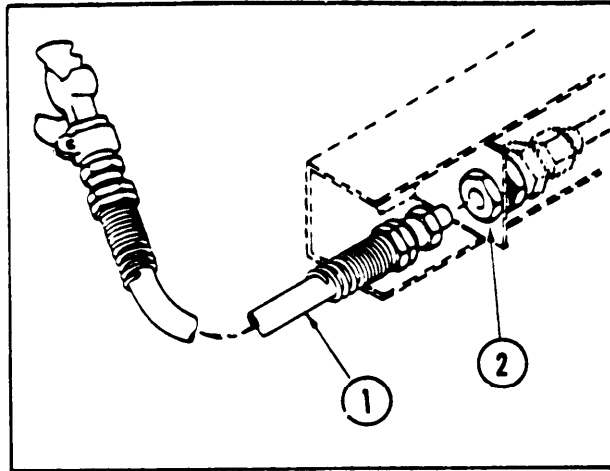
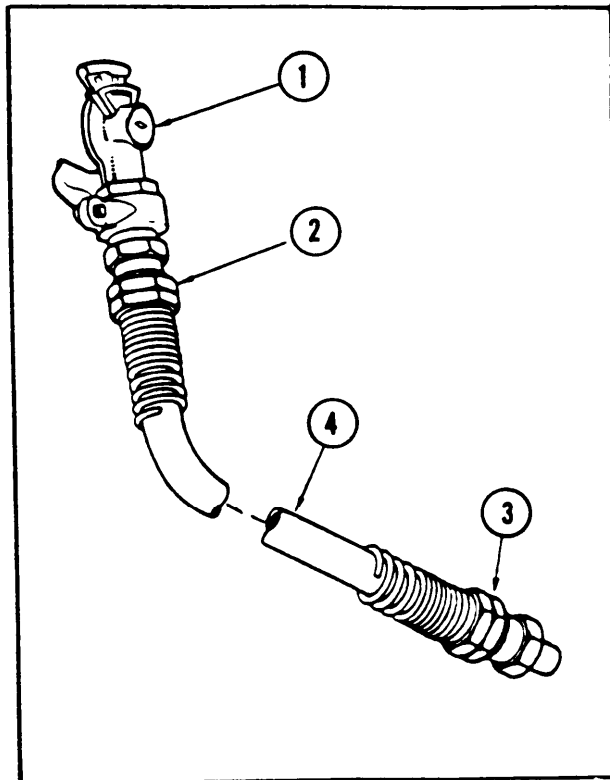

Figure 2-22. Trailer Air Hose Assembly (ARMY)
Figure 2-23. Trailer Air Hose (ARMY)
a. Removal. (Figure 2-22) Remove hose assembly (1) from anchor coupling (2).
b. Disassembly. (Figure 2-23)
(1) Remove automotive coupling (1) from adapter (2).
(2) Remove adapters (2) and (3) from air hose (4).
(1) Inspect air hose for cracks. If cracks are present, replace hose.
(2) Inspect automotive coupling for damage. If coupling is damaged, replace.
d. Assembly. (Figure 2-23)
(1) Install adapters (2) and (3) in air hose (4).
(2) Install automotive coupling (1) in air hose (4).
e. Installation. (Figure 2-22) Install hose assembly (1) in anchor coupling (2).